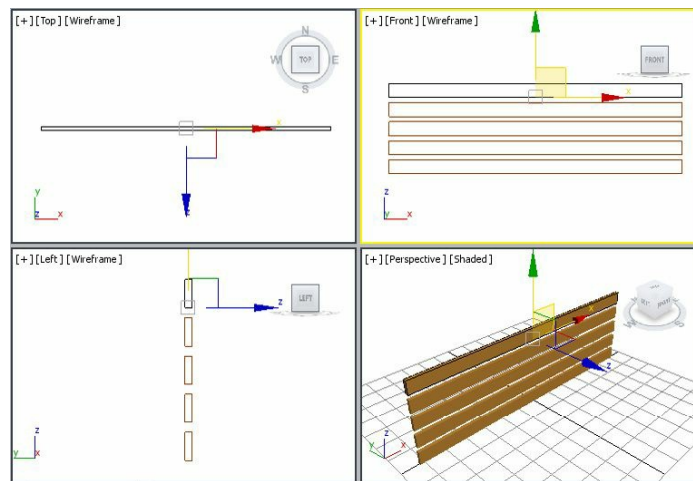

Figure 2-65 Horizontal back supports displayed in viewports
- Choose the **Zoom Extents All** tool from the viewport navigation controls; the horizontal back supports are displayed in viewports, as shown in Figure 2-65.